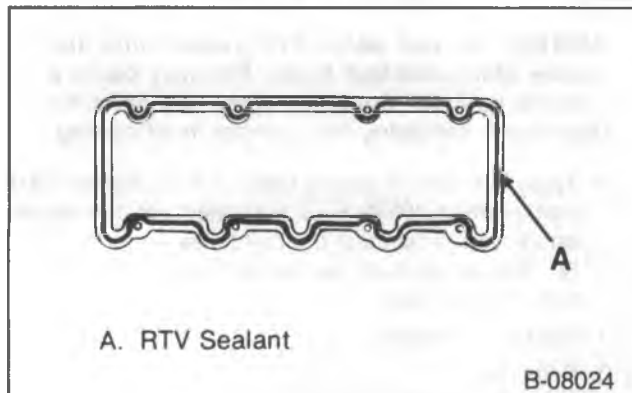

Figure 50—Applying Sealant to the Rocker Arm Cover
↔ Install or Connect (Figure 50)
- Apply a 5 mm (3/16-inch) bead of RTV sealant (GM part number 1052915 or equivalent) to the rocker arm covers, inboard of the bolt holes. Refer to figure 50. The sealer must be wet to the touch when the bolts are torqued.
2. Bolts (58).